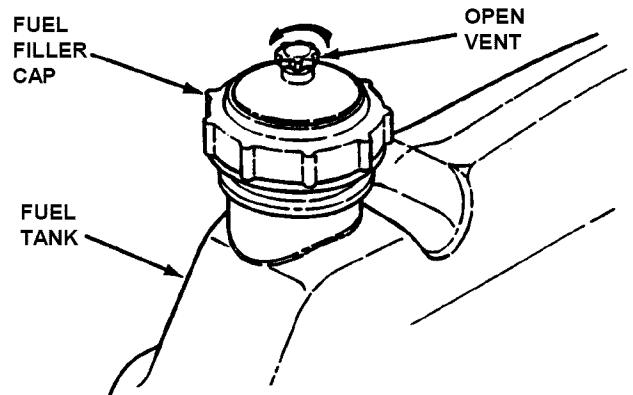

FIGURE 2.2
**2.1.8.** Add fuel to tank after pushing the Rear Engine Rider outside where fumes can dissipate. Make sure fuel filler cap is tight and vent is open after refueling. Refer to engine owner's manual for fuel specifications. See Figure 2.2.
4. Open vent on fuel filler cap by turning counterclockwise. **IMPORTANT:** Failure to open vent on the fuel filler cap can cause engine to stall. See Figure 2.2.
4. Open vent on fuel filler cap by turning counterclockwise. NOTE: Failure to open vent on the fuel filler cap can cause engine to stall. See Figure 2.2.